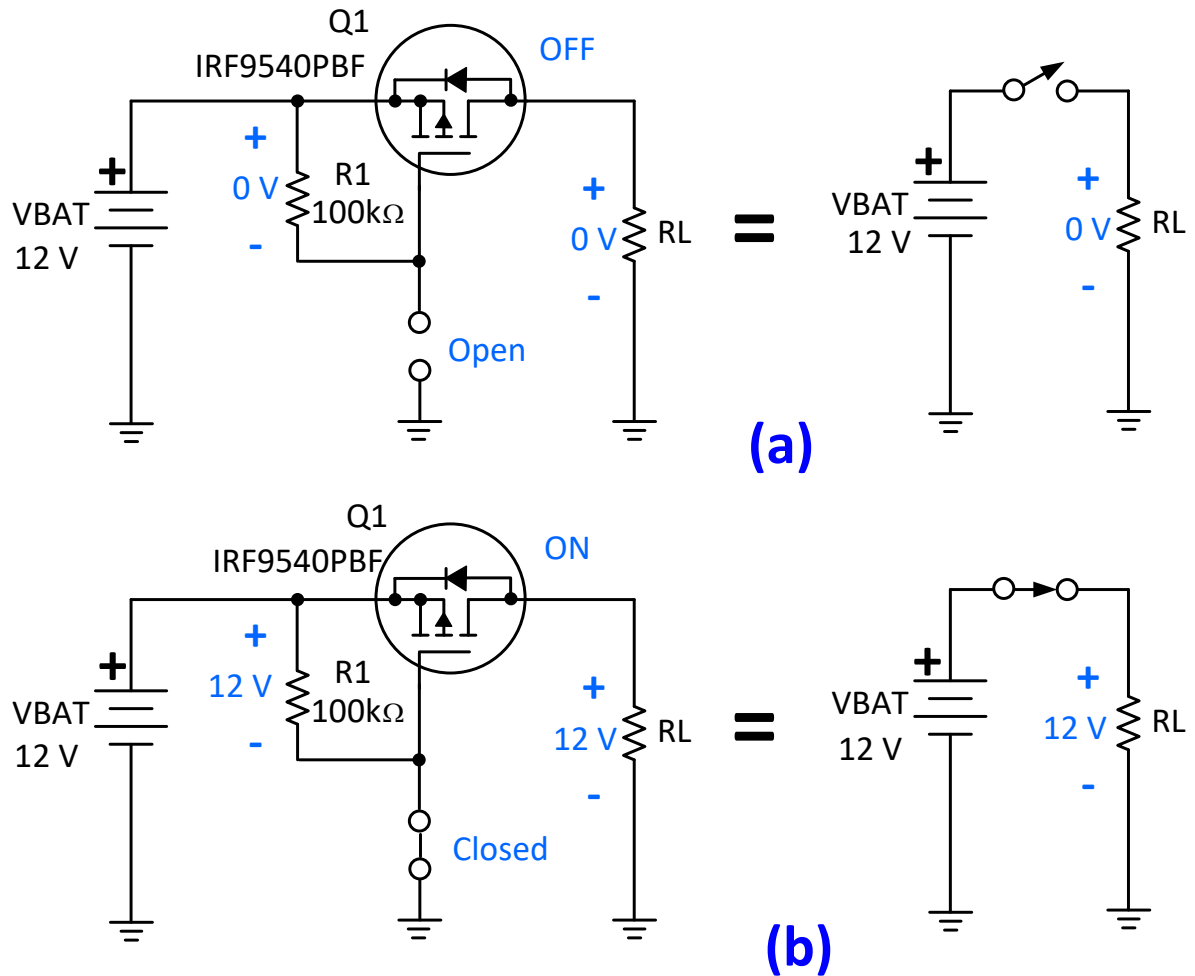

Figure 6-43.
The E-MOSFET exhibits a low resistance (called $R_{DS(ON)}$) between its drain and source terminals when it is in hard conduction. Figure 6-43 depicts the basic operation. The E-MOSFET is being used as a controlled switch. When its gate is open [Fig. 6-43(a)] the E-MOSFET acts like an open switch and no voltage is applied to the load. If the gate is taken to ground as indicated in Fig. 6-43(b) the E-MOSFET behaves like a closed switch and voltage is applied to the load. The resistor R_1 is necessary to prevent the gate from floating. It ensures the E-MOSFET goes OFF.
- 6-56 Explain the function of resistor R_I in Fig. 6-43(a).